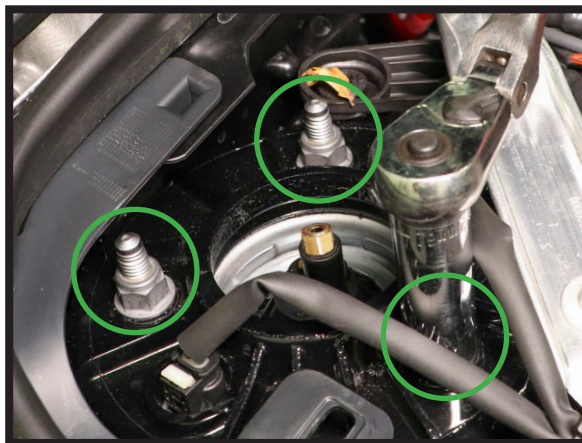

FIGURE 35
9. REINSTALL THE THREE (3) TOP MOUNT NUTS AND TIGHTEN TO MANUFACTURER'S SPECIFICATIONS. (FIGURE 35)